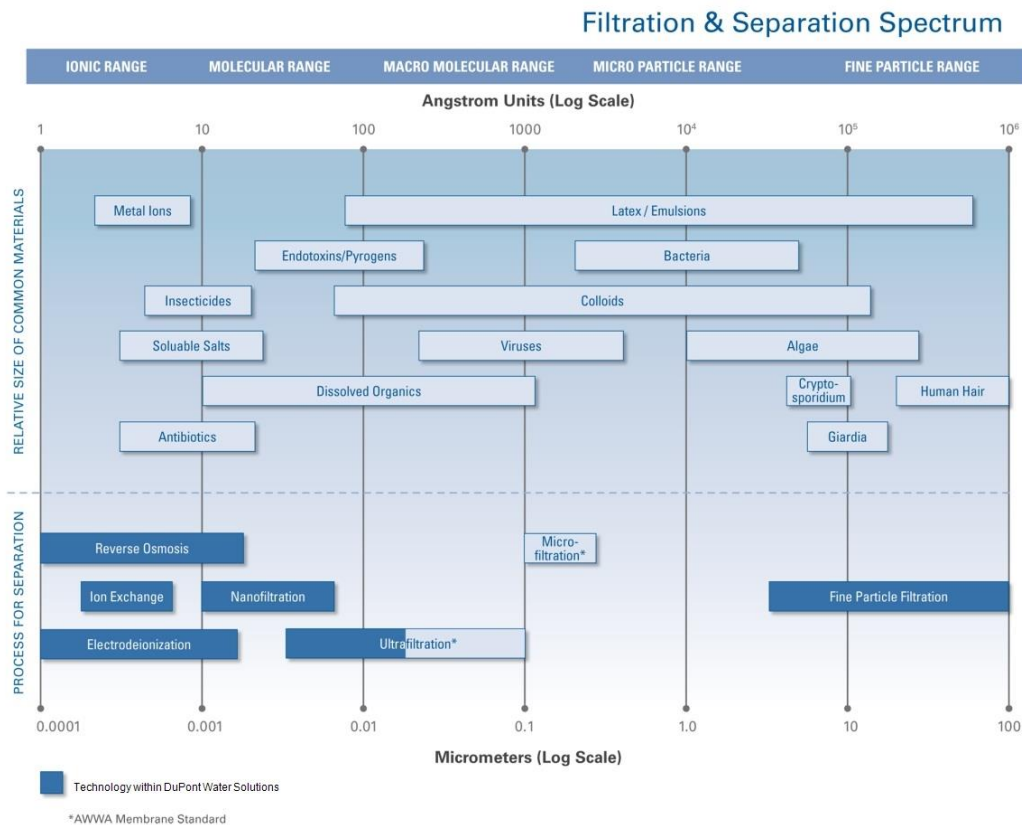

Figure 1. Separation Filtration Spectrum
A separation spectrum diagram is shown on Figure 1. It depicts the most common technologies applied for the removal of diverse contaminants or substances present in a feed stream of water supplies. While Electrodeionization (EDI), Ion Exchange (IER), Reverse Osmosis (RO) and Nanofiltration (NF) target the removal of solutes from the feed stream, Ultrafiltration (UF), Fine Particle Filtration (FPF) and Microfiltration (MF) separate fine particles, suspended solids, colloidal matter, microorganisms (e.g., cryptosporidium or giardia cysts) and low molecular weight species.